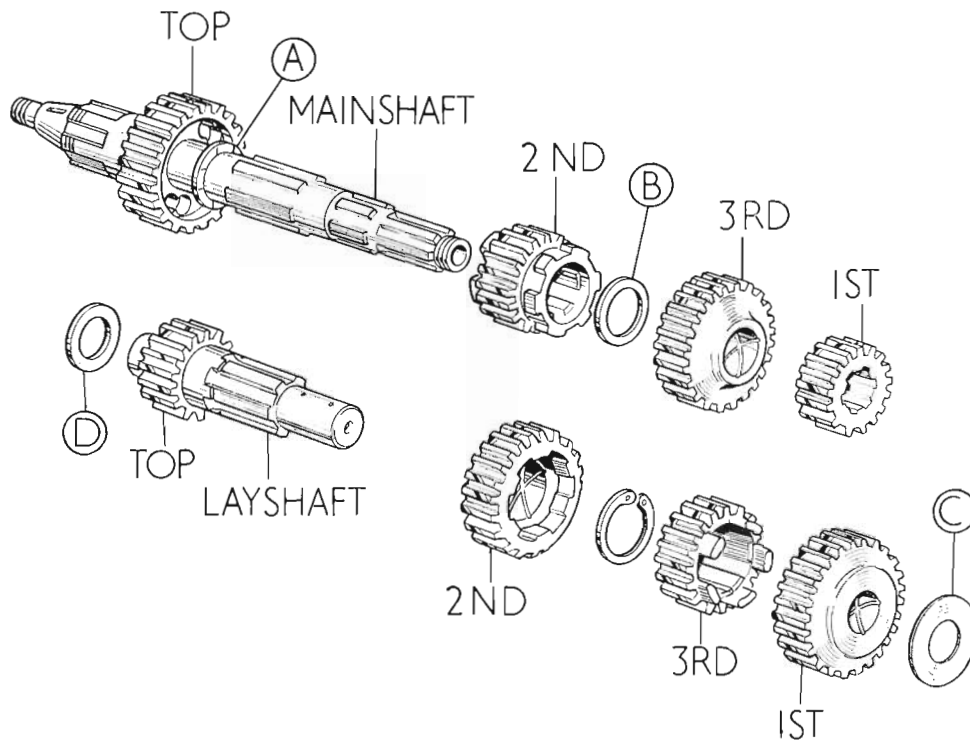

FIG. B.26. Gear cluster exploded.
Holding the cover face down, place the layshaft low gear with its shim (c) Fig. B.26, and
A thrust washer (D) is fitted to the drive-side end of the layshaft when there should be just perceptible end float. The mainshaft, being locked to the inner cover, does not need checking for end float but excessive movement between the gears and the ends of the splines must be corrected by fitting the appropriate spacers. See Fig. B.26 for position of each spacer, the thicknesses and part numbers of which are as follows: